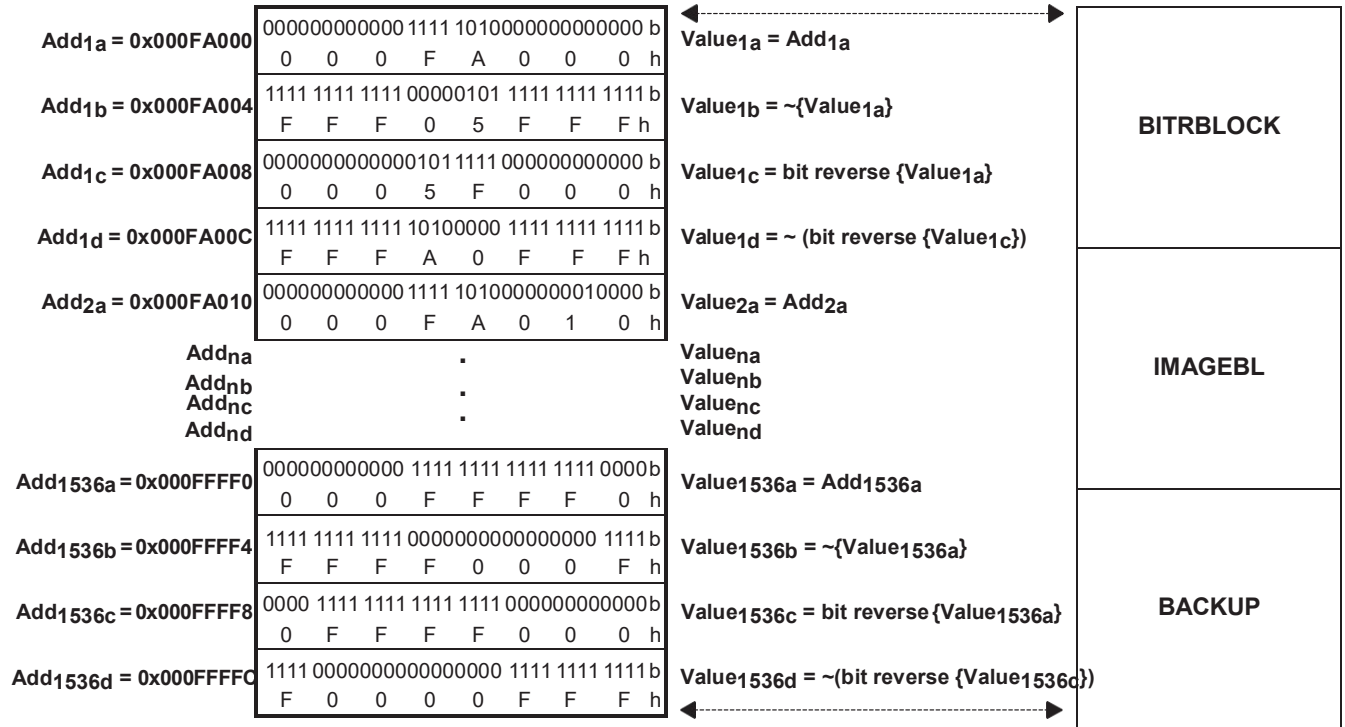

Figure 3. Buffer Test
1. Save the 32 bits address number Add_{na} (see Figure 3) at the address Add_{na} . When n equals 1, $Add_{1a} = 0x000FA000$.
6. Compare the address number Add_{na} (see Figure 3) with the value contained at the address Add_{na} ($Value_{na}$). When $n=1$, $Value_{1a} = 0x000FA000$.